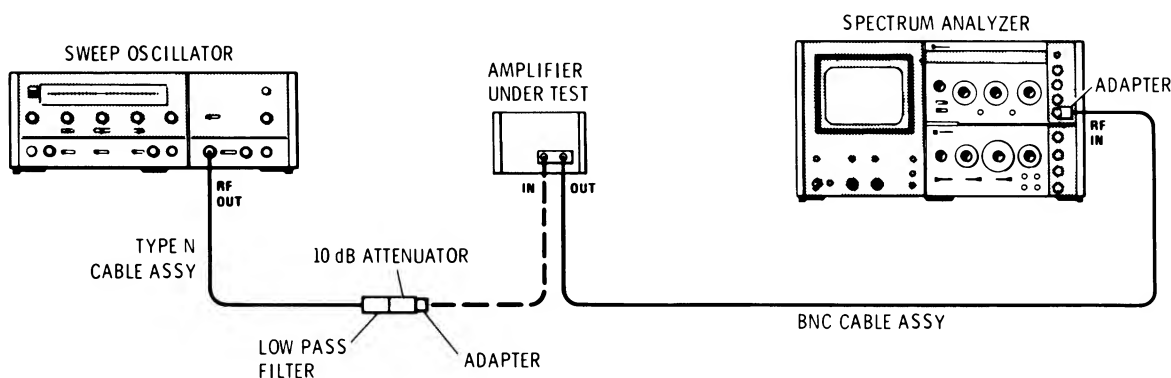

Figure 7. Distortion and Reverse Isolation Test Setup
1. To check distortion, connect the equipment as shown in Figure 7. Set the sweep oscillator for a fixed, 400 MHz CW signal.